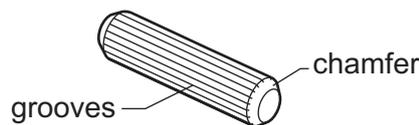

Fig. 12.3
- (e) Fig. 12.3 shows one of the dowel pegs used to join parts of the prototype chair.